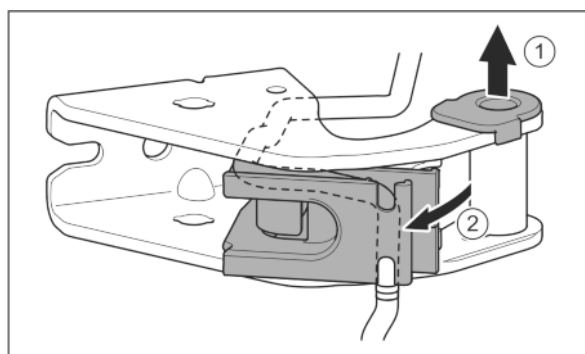

Fig. 24
- Pull the bearing bush out of the guide. *Fig. 24 (1)*
- Swing the cable holder out. *Fig. 24 (2)*